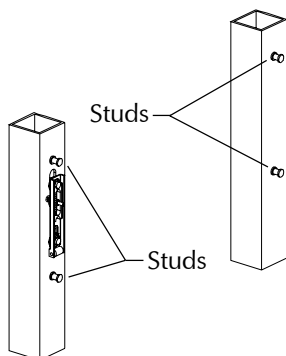

Figure 6-1
- 6.1. Install four housing mounting studs (Figure 6-1).